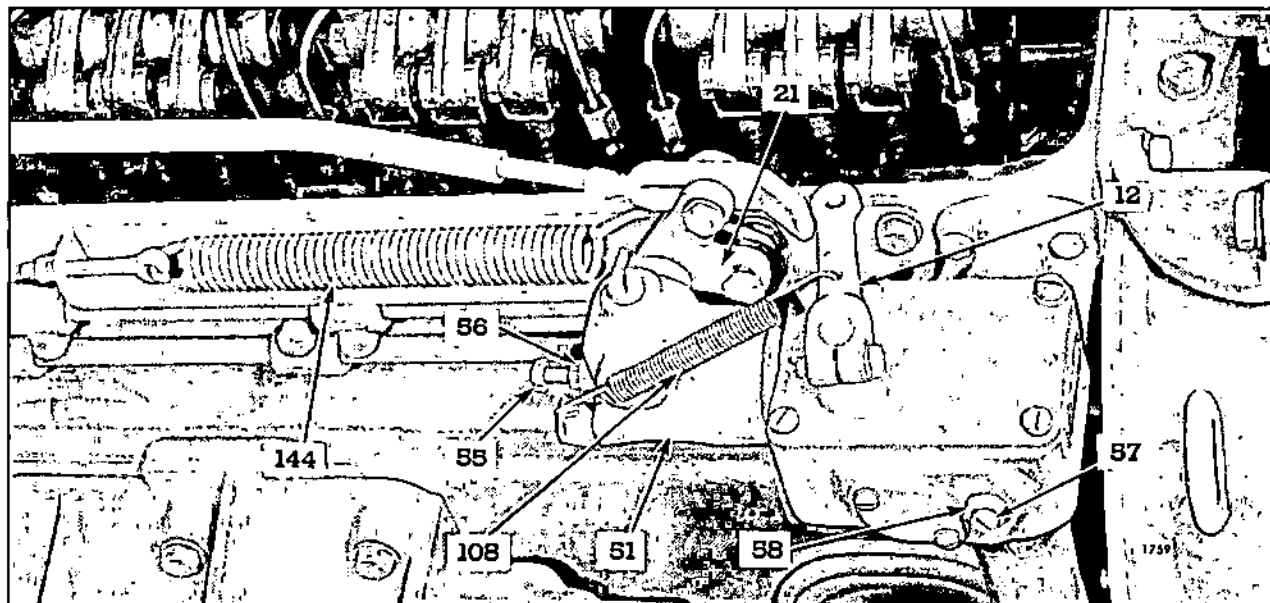

Fig. 12 - Buffer and Idle Speed Adjusting Screws
2. Loosen the lock nut (58), Fig. 12, and back out the buffer screw (57) approximately 5/8".
- 1. Refer to Fig. 12 and disconnect the booster spring.
- 2. Remove the two bolts and withdraw the variable speed spring housing (51), spring plunger
1. Place the speed control lever in the IDLE position and the stop lever in the RUN position as shown in Fig. 12.
3. Loosen the lock nut (56) and turn the idle speed adjusting screw (55) until the engine is operating at approximately 15 rpm below the recommended idle speed.
1. Refer to Fig. 12 and loosen the booster spring retaining nut on the speed control lever (21). Loosen the nut and lock nut on the eyebolt at the opposite end of the spring (144).
2. Move the bolt up or down in the slot in the speed control lever (21) until the center of the bolt is on or slightly below an imaginary line through the center of the bolt, lever shaft, and eyebolt. Hold the bolt and tighten the lock nut.
3. Start the engine and move the speed control lever (21) to the maximum speed position and release it. The speed control lever should return to the idle position. If it does not, reduce the booster spring tension. If it does, continue to increase the spring tension until it will not return to idle. Then, reduce the tension until it does return to idle and tighten the lock nut on the eyebolt. This setting will result in the minimum force to operate the speed control lever.